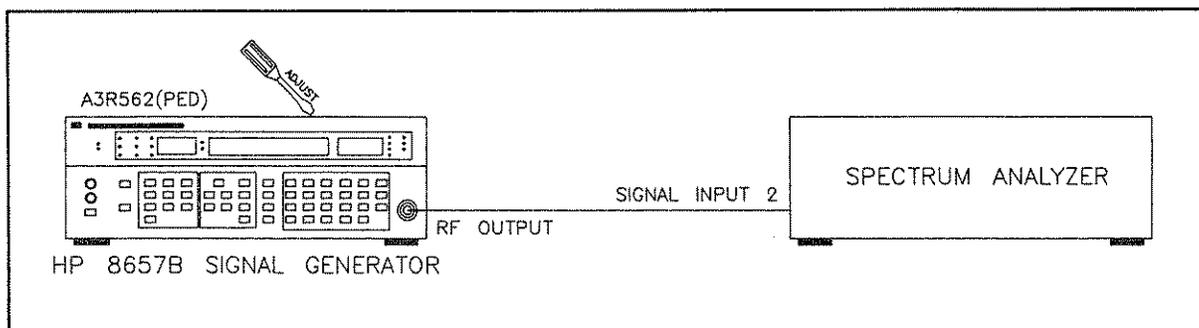

Figure 5-10. Pedestal Adjustment Setup
3. Connect the RF OUTPUT of the HP 8657B to the spectrum analyzer as shown in Figure 5-10.